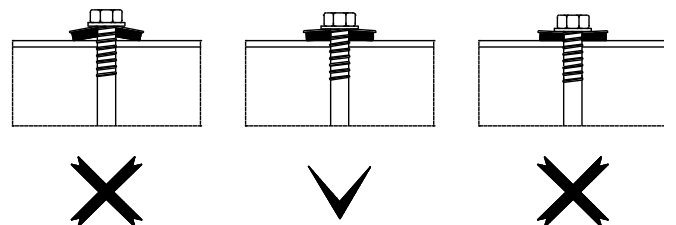

fig.5
b. Pay adequate attention to correct tightening of fasteners (fig.5)